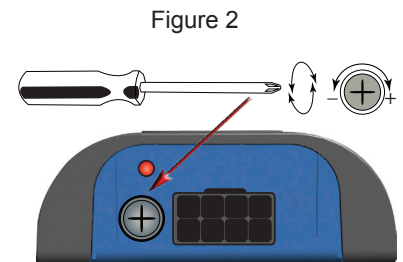

Figure 2
4. Slowly adjust level on LP7-2R until you reach the target voltage of the amplifier. (figure 2)
3. Slowly adjust front channel gain of LP7-2R until just a hint of distortion is audible, and then back down gain just under that threshold and the distortion goes away. (figure 2)